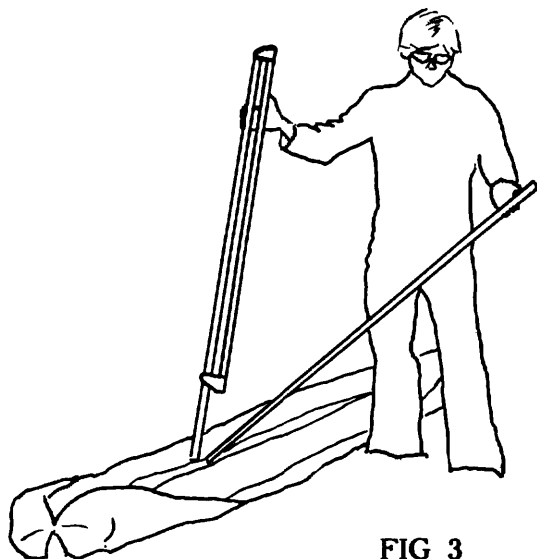

FIG 3
3) Undo the velcro securing the control bar, and fold the bar up and forward. (Fig 3)